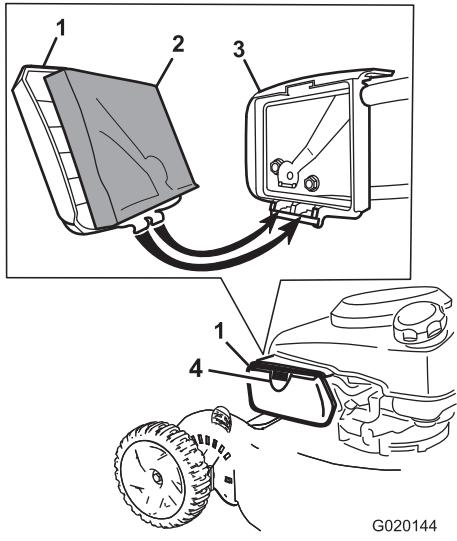

Figure 20
- Press the button on the air cleaner cover (Figure 20) and open the cover.